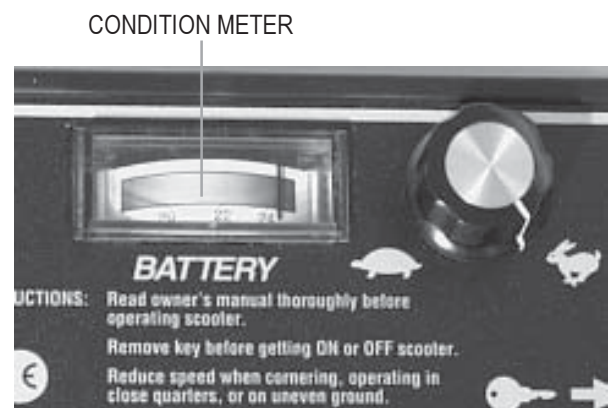

FIGURE 10. BATTERY CONDITION METER INDICATES BATTERY STRENGTH
5. It is recommended that you charge your batteries for 8 to 14 hours. You can check this periodically by the battery condition meter on the control console assembly. However, you must first unplug the battery charger and then insert the key. The battery condition meter on the control console assembly indicates the approximate strength of your batteries. When fully charged, the meter reads 24 volts. See figure 10.